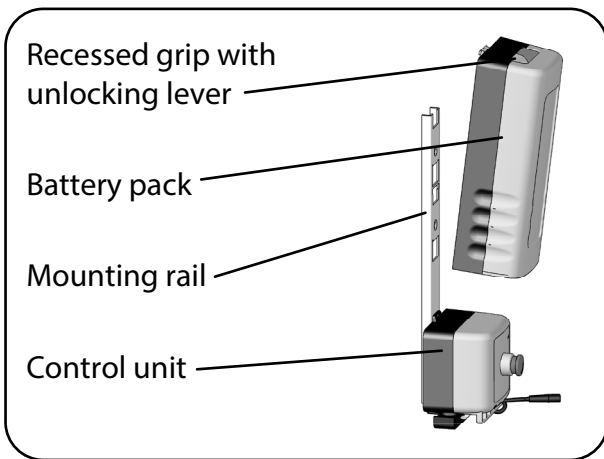
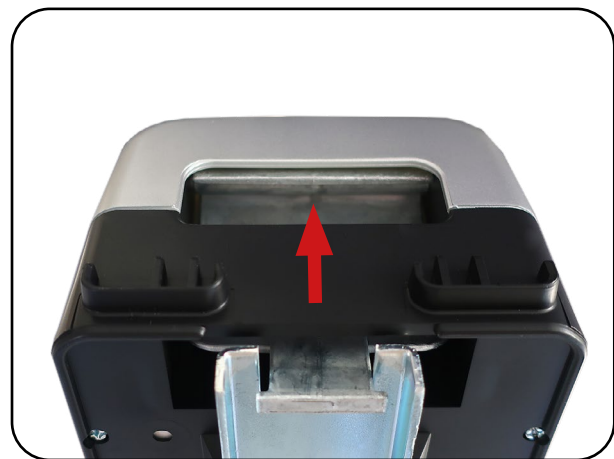

Fig. 8.7.01 – Removing the battery pack
Fig. 8.7.02 – Unlocking lever on the battery pack
2. Reach into the recessed grip on the battery pack from above and pull the unlocking lever up with your fingers (Fig. 8.7.01 and Fig. 8.7.02).
3. At the same time, pull the battery pack upwards out of the mounting (Fig. 8.7.01).
2. Reach into the recessed grip on the battery pack from above (Fig. 8.7.01).